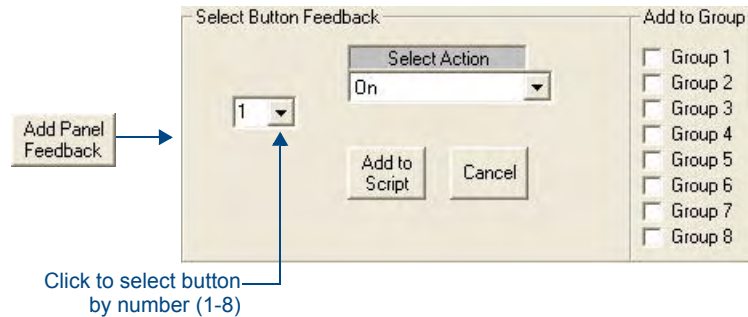

FIG. 20 Select Button Feedback window
2. Click on the **Add Panel Feedback** button in the Command Bar to invoke the *Select Button Feedback* window (FIG. 20).
3. Click on **Add Panel Feedback** to invoke the *Select Button Feedback* window (FIG. 20 on page 47).